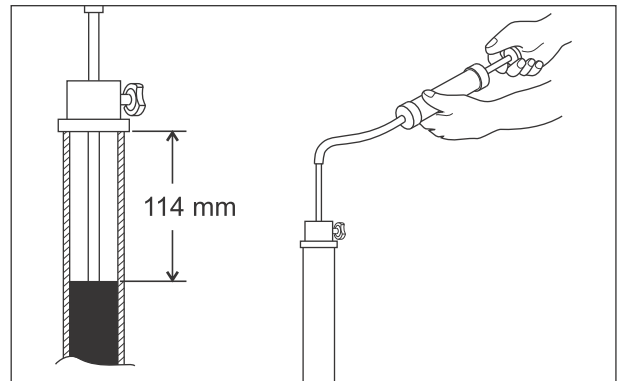

Fig. 6.55
- Adjust the special tool (oil level gauge) to the specified height. Hold the front fork vertically and take out the excess oil from the front fork using the special tool as shown. (Fig. 6.55)